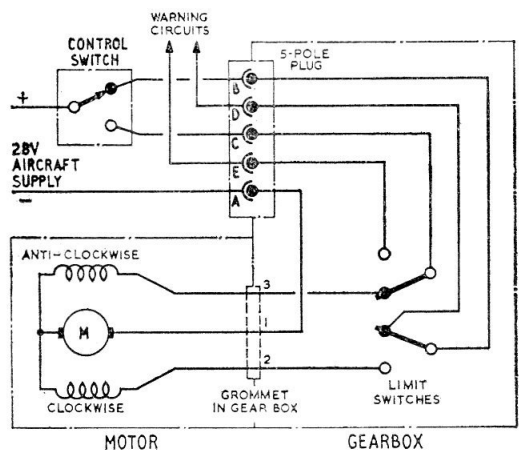

Fig. 4. Circuit diagram
22. When moving from "close" to "open", the "open" limit switch should operate 6 to 12 degrees before the mechanical stop. The "close" limit switch should close 2 to 20 degrees before the other limit switch opens. This is to ensure that the two limit switches are not open (both series field circuits de-energized) at the same time. A circuit diagram is shown (fig. 4).